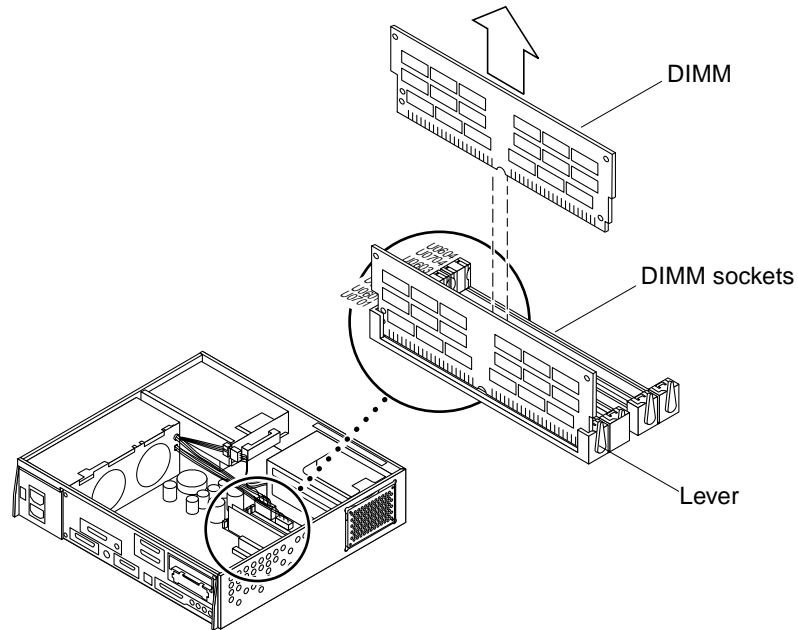

Figure 2-6 Removing a DIMM
1. **Locate the DIMM to be removed (Figure 2-6).**
4. Grasp the upper corners of the DIMM and lift to remove it from the slot (Figure 2-6).